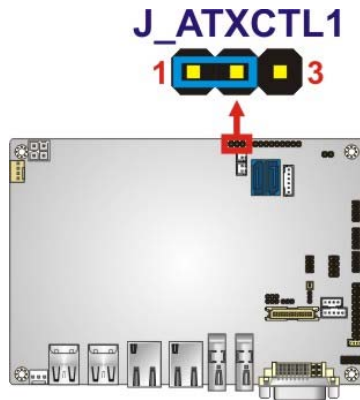

Figure 4-3: AT/ATX Mode Selection Jumper Location
- Jumper Location:** See Figure 4-3